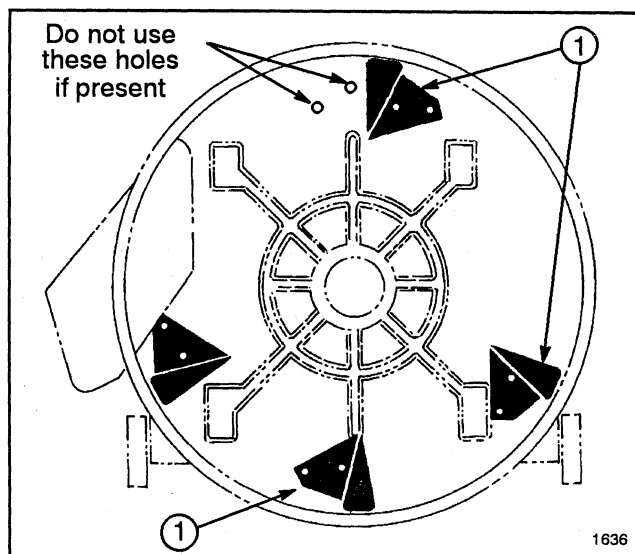

Figure 5 (Bottom View)
4. Align the remaining three kickers with holes in deck and secure in place with short capscrews and lock nuts (Fig. 5).